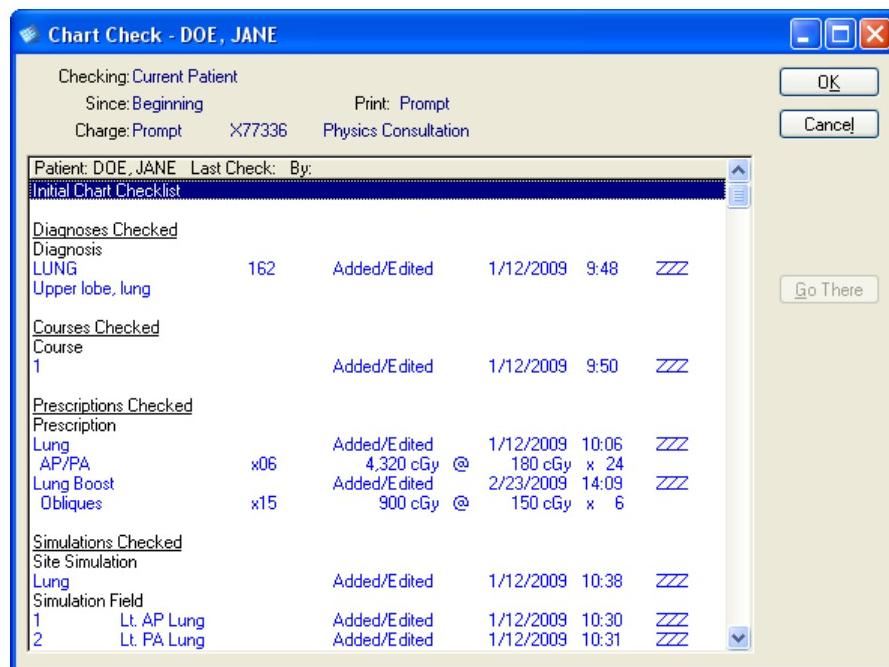

Figure 24: Chart Check Window
7. Click **OK** to do the chart check and then open the Chart Check window, shown in Figure 24.